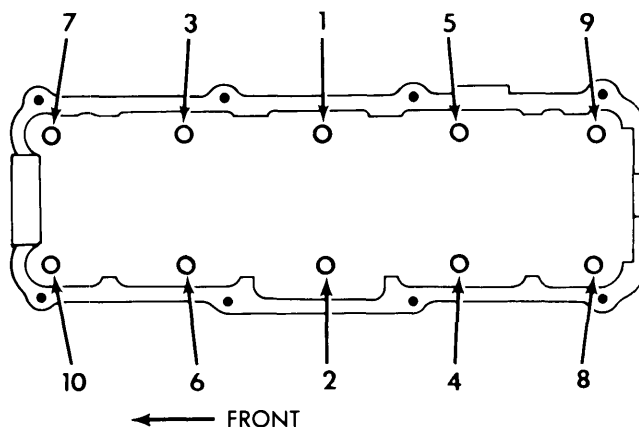

Fig. 1 Cylinder Head Tightening Sequence
2) Loosen head bolts in reverse of tightening sequence (See Fig. 1). To install, place head gasket with word "top" facing cylinder head. Position cylinder head on gasket and install bolts. Tighten bolts, in steps, in sequence shown in Fig. 1. Reinstall remaining components and retune camshaft. Retighten head bolts after 1000 miles.